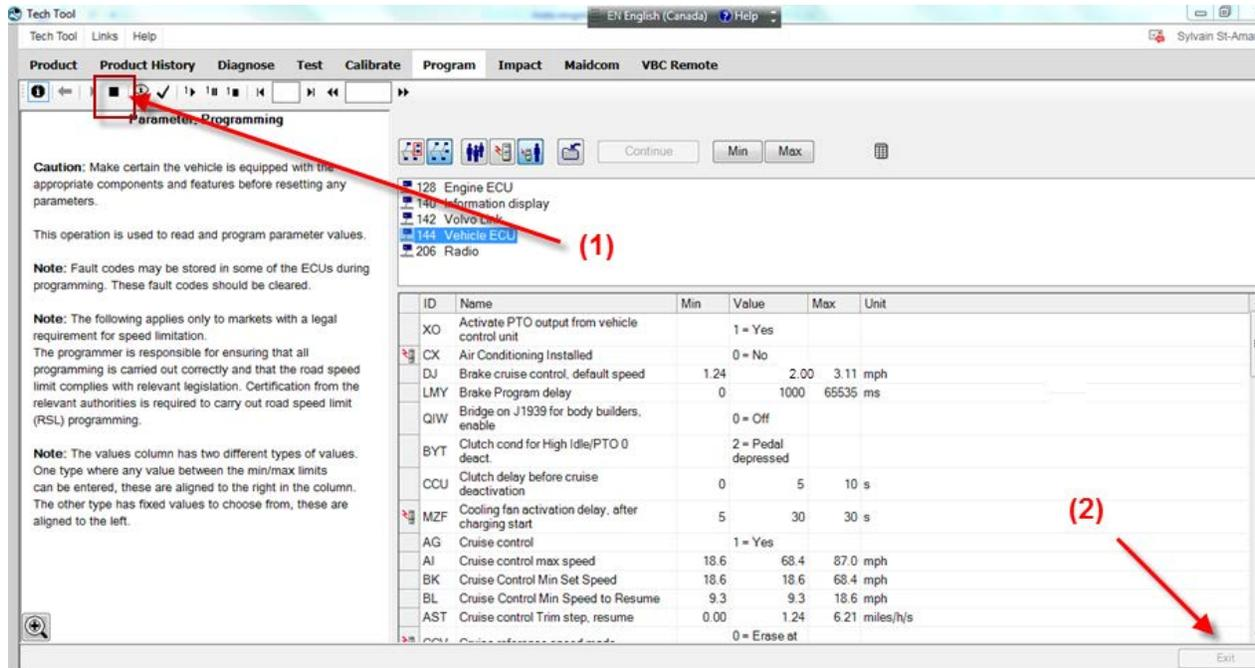

FIGURE 36
8. Click ■ (stop) (arrow 1) and then EXIT (arrow 2) (FIGURE 36).